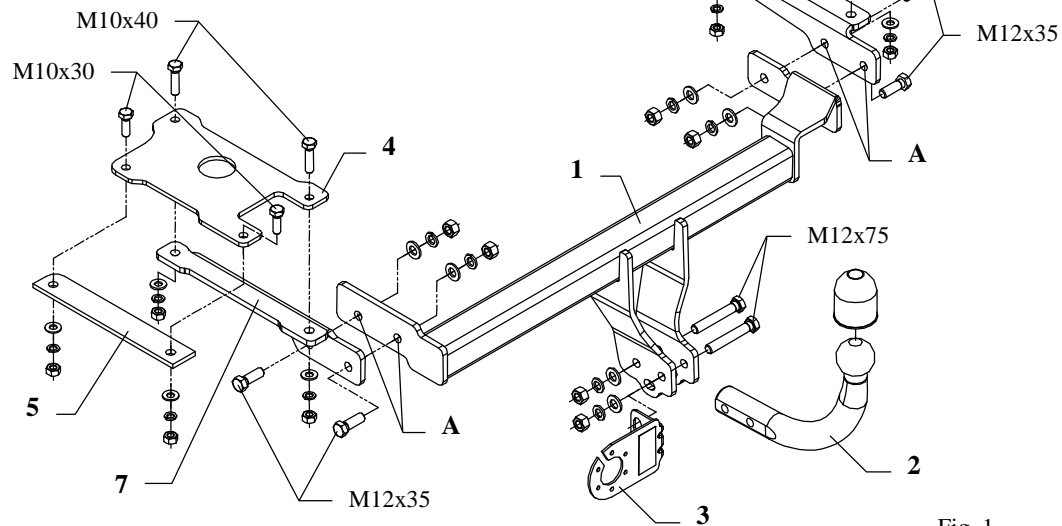
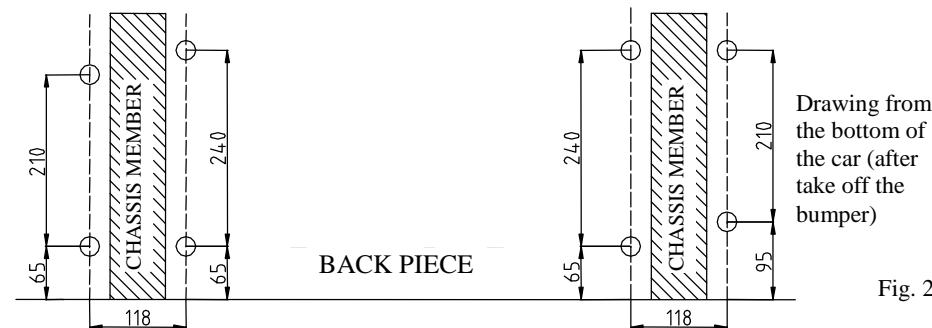

Fig. 1
Fig. 2
3. Point out holes from the bottom of the car according to the fig. 2 (above). Then drill holes  $\phi 11$ mm (drillings fall out in places of the pressure welding of chassis members with the floor of the car) – make carefully and precisely.
4. Apply properly large fish-plates (pos. 4 and 6) onto made holes (inside the trunk).
5. Apply side brackets (pos. 7 and 8) from the bottom of the car and through large fish-plates (pos. 4 and 6) fix properly with bolts M10x40mm – pos. 11 (see fig. 1).
6. Apply fish-plates (pos. 5) from the bottom of the car and through large fish-plates (pos. 4 and 6) fix properly with bolts M10x30mm – pos. 12 (see fig. 1).
7. To side brackets through holes (pos. 10) fix the main bar of the towing hitch (pos. 1) using bolts M12x35mm (pos. 10).
10. To so prepared towing hitch fix tow-ball (pos. 2) with socket plate (pos. 3) using bolts M12x75mm (pos. 9) from towing hitch accessories.